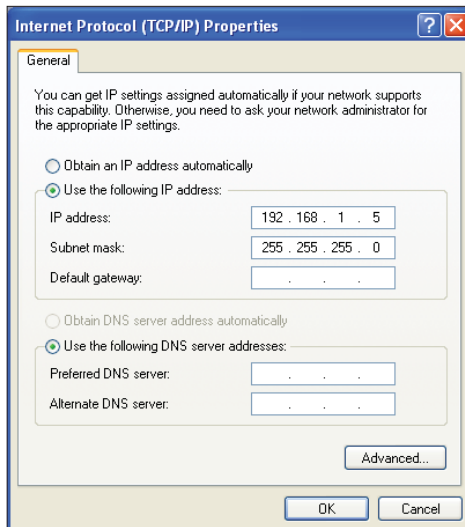

Figure 8: Internet Protocol Properties Window
- 6.) *Select the radio button in front of **Use the following IP address (Figure 8)** and write down the current defaults so that you can re-enter them when you finish configuring the PT-Link and then type in the following information:*
- 6.) *Choose **Internet Protocol Version 4 (TCP/IPv4)** by highlighting it and then click <Properties>. The *Internet Protocol Properties Window* will appear (**Figure 8**).*
- 7.) *Select the radio button in front of **Use the following IP address (Figure 8)** and write down the current defaults so that you can re-enter them when you finish configuring the PT-Link and then type in the following information:*